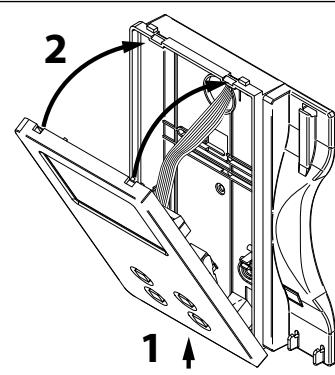

Fig. 6
- Once testing is complete and all the necessary adjustments are made, disconnect the handset from the cover and close the unit as shown in **Fig. 6**: first hook it on the bottom then push in the top until you hear a "CLICK!".